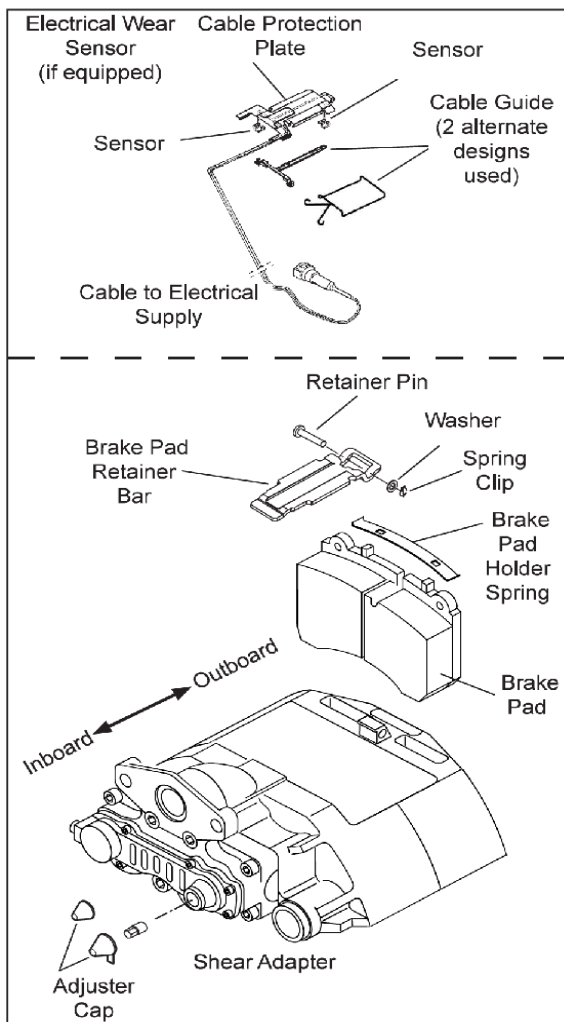

Figure 5: Brake Pad Replacement
6. While pressing down against the brake pad retaining bar, remove the spring clip, washer, retainer pin, and brake pad retainer bar. See **Figure 5**.